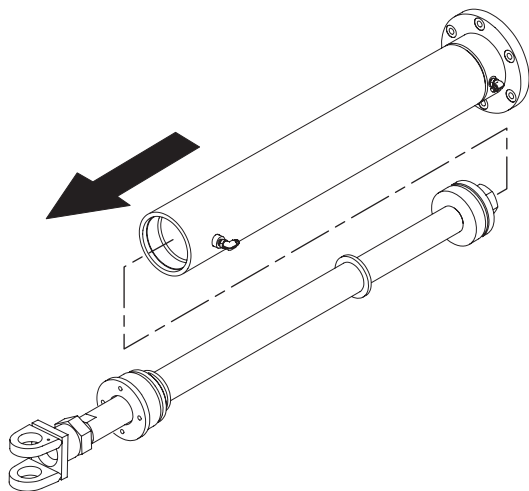

Figure 5-2, Piston Rod Removal
3. Remove the piston rod assembly, with the head assembly still on the rod from the cylinder tube. (Figure 5-2)